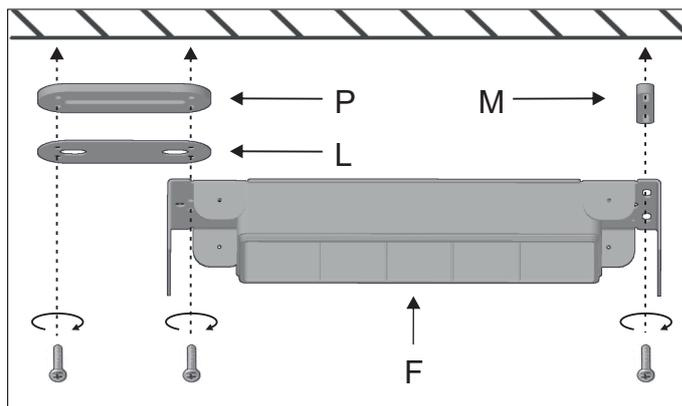

Figure 4E
Attach the union parts (M and P), the decorative cover (L), and the mounting bracket (F) to the wall. Figure 4E